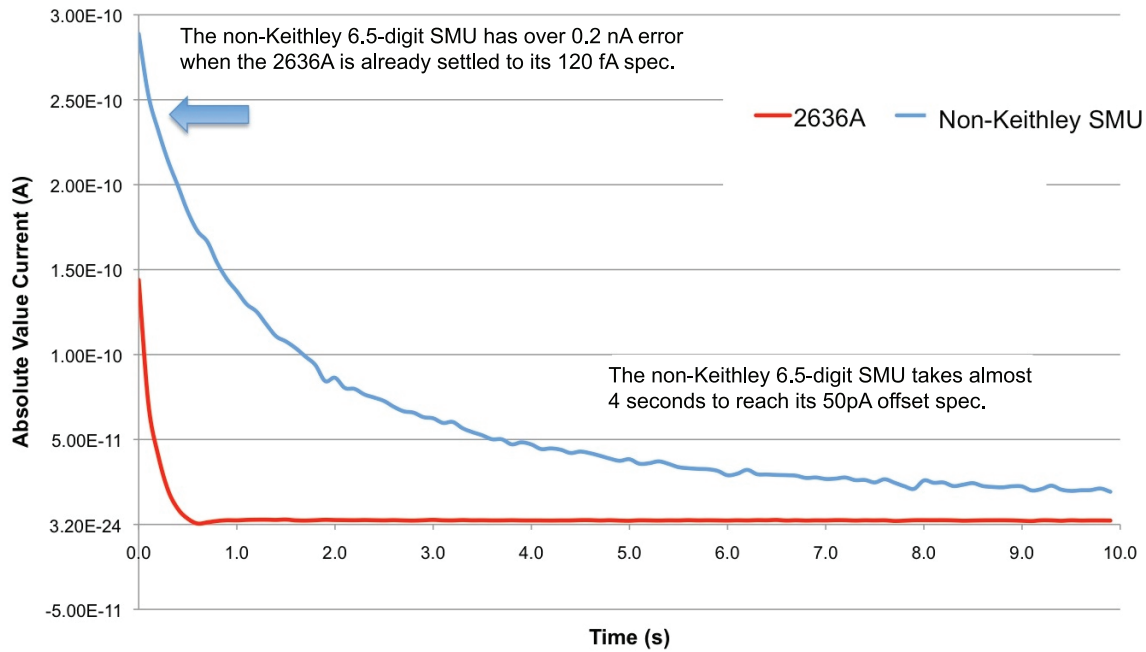

Figure 11. Comparison of measurement settling time, offset error, and noise.
- *Measurement settling time, offset error, and noise* can have a big impact on an SMU instrument's performance, particularly in low current applications. The example illustrated in **Figure 11** shows the results of two SMU instruments sourcing 200V with nothing connected to the input terminals while measuring the resulting current using each instrument's built-in ammeter feature. This comparison offers a good indication of each instrument's fundamental low current performance, and it's an easy test to recreate on the test bench.